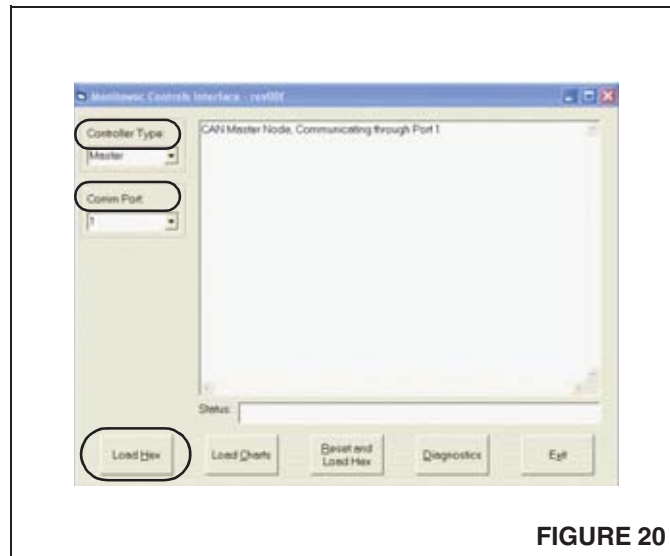
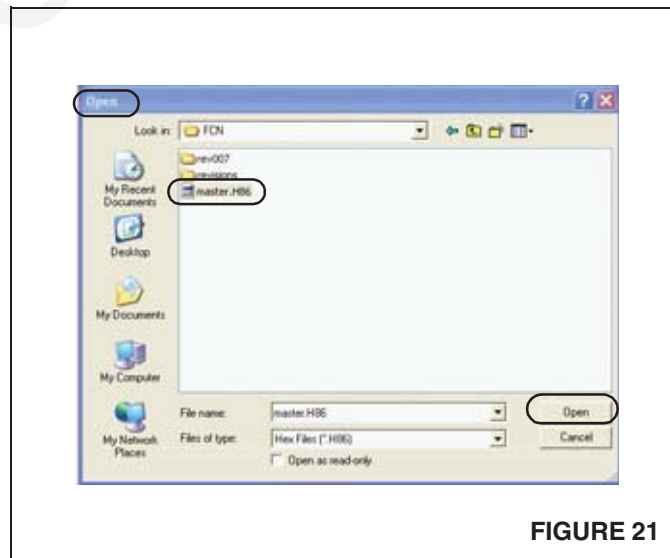

FIGURE 20
FIGURE 21
8. Press button under **Controller Type**, in upper left corner of screen and select **Master** from the drop down menu (see Figure 20).
9. In the **Comm Port** drop down menu, select the communication port that the download cable is connected to (see Figure 20).
11. Select and press **Load Hex** button in lower left corner (see Figure 20). A screen will drop down called **Open** as shown in Figure 21.
12. Locate and left click **Master.H86** icon to select file (see Figure 21). Click on **Open** button to open file. The **MCC Controls App** will now download the selected file to the Master Node. The controls interface main screen will display **Process Complete/ Timed Out** when files are fully loaded and file closes automatically.